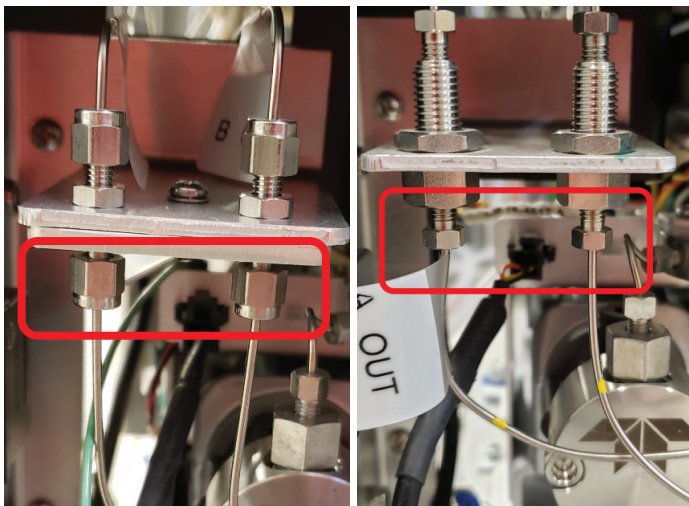

Figure 2: Bulkhead connections-Swagelok (left) Valco (right)
- Using a 5/16" or 1/4" open end wrench (depending on current configuration of the bulkhead connections), disconnect the output of pumps A & B at the bulkhead connection points. (Figure 2)
5. Connect the output of pumps A & B to the lower bulkhead connection points (Figure 2). After finger tightening the Swagelok fittings, use a 5/16" open end wrench to tighten down each fitting a 1/8 – 1/4 a turn to fully seat these connections.